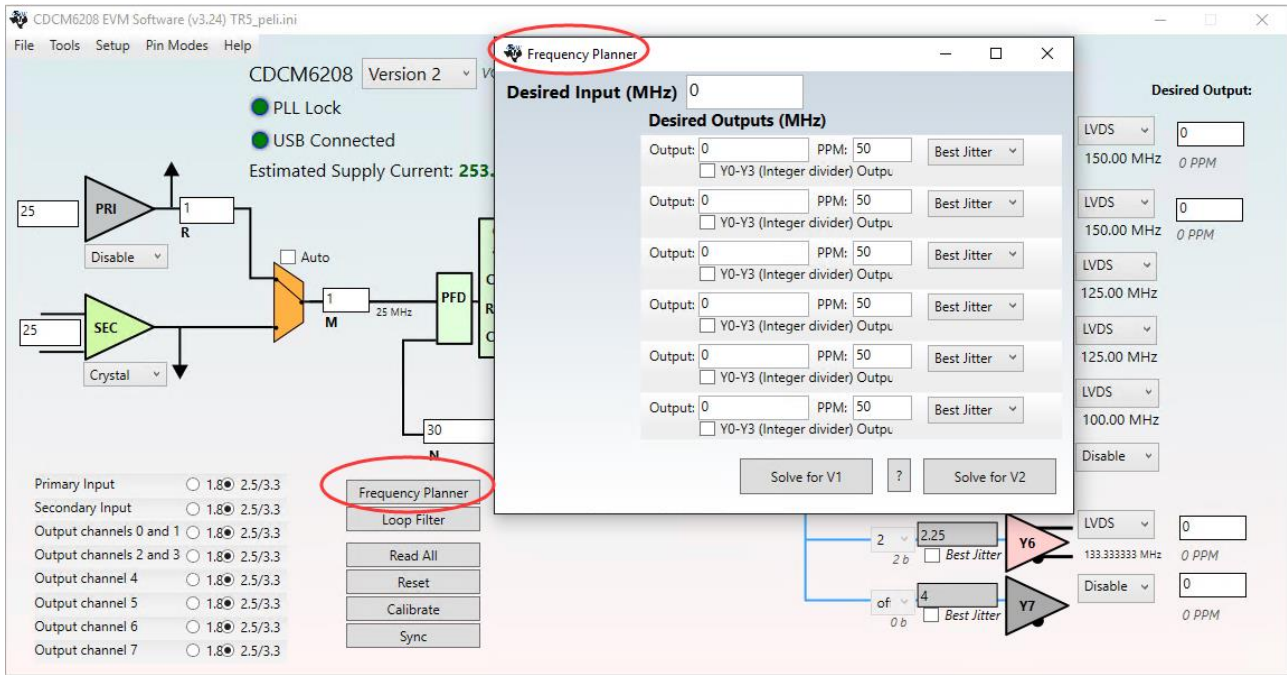

Figure 5-5 Define Output Clock Frequencies on CDCM6208 EVM Software
2. After the installation, select CDCM6208, and configure the input frequency and output frequency as shown in **Figure 5-5**.